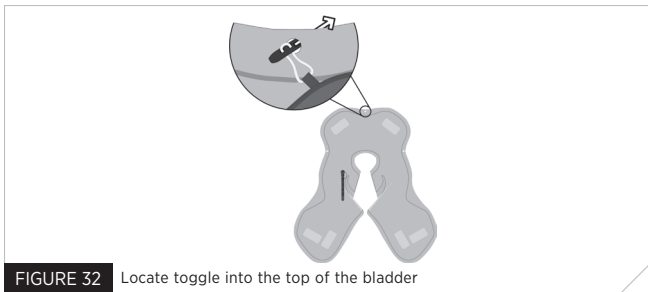

FIGURE 32 Locate toggle into the top of the bladder
2. Locate the toggle at the top of the hood and put it through the punched hole on the top of the bladder (Fig 32).